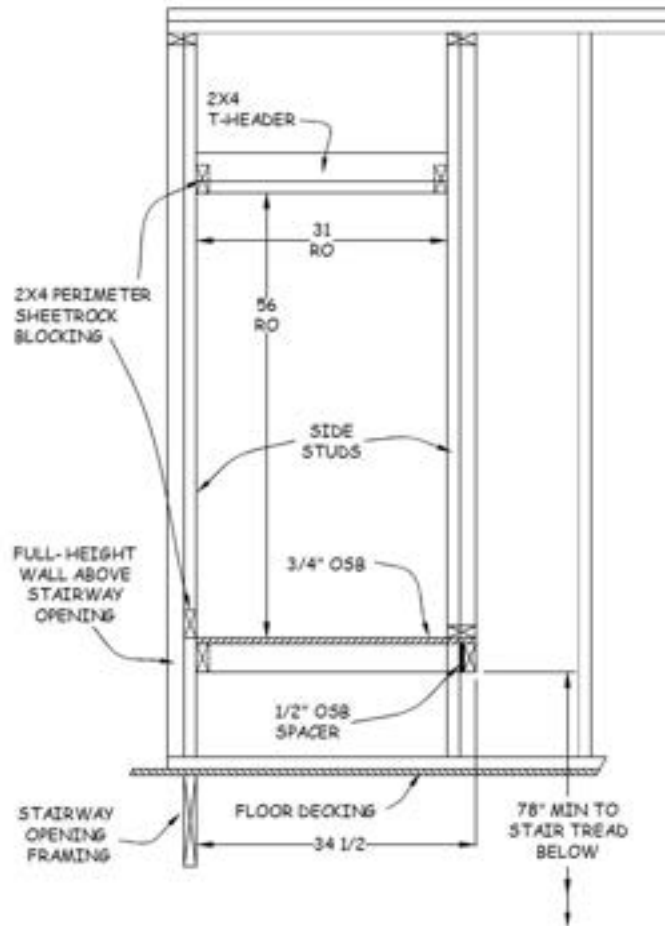

Figure 6-11. Stairway Cabinet Opening Framing.
2. Install a stud in the side wall flush to the stairway opening side of the end wall. Install another stud in the side wall 31" inside-to-inside from the first stud, toward the top of the stairs (see Figure 6-11).